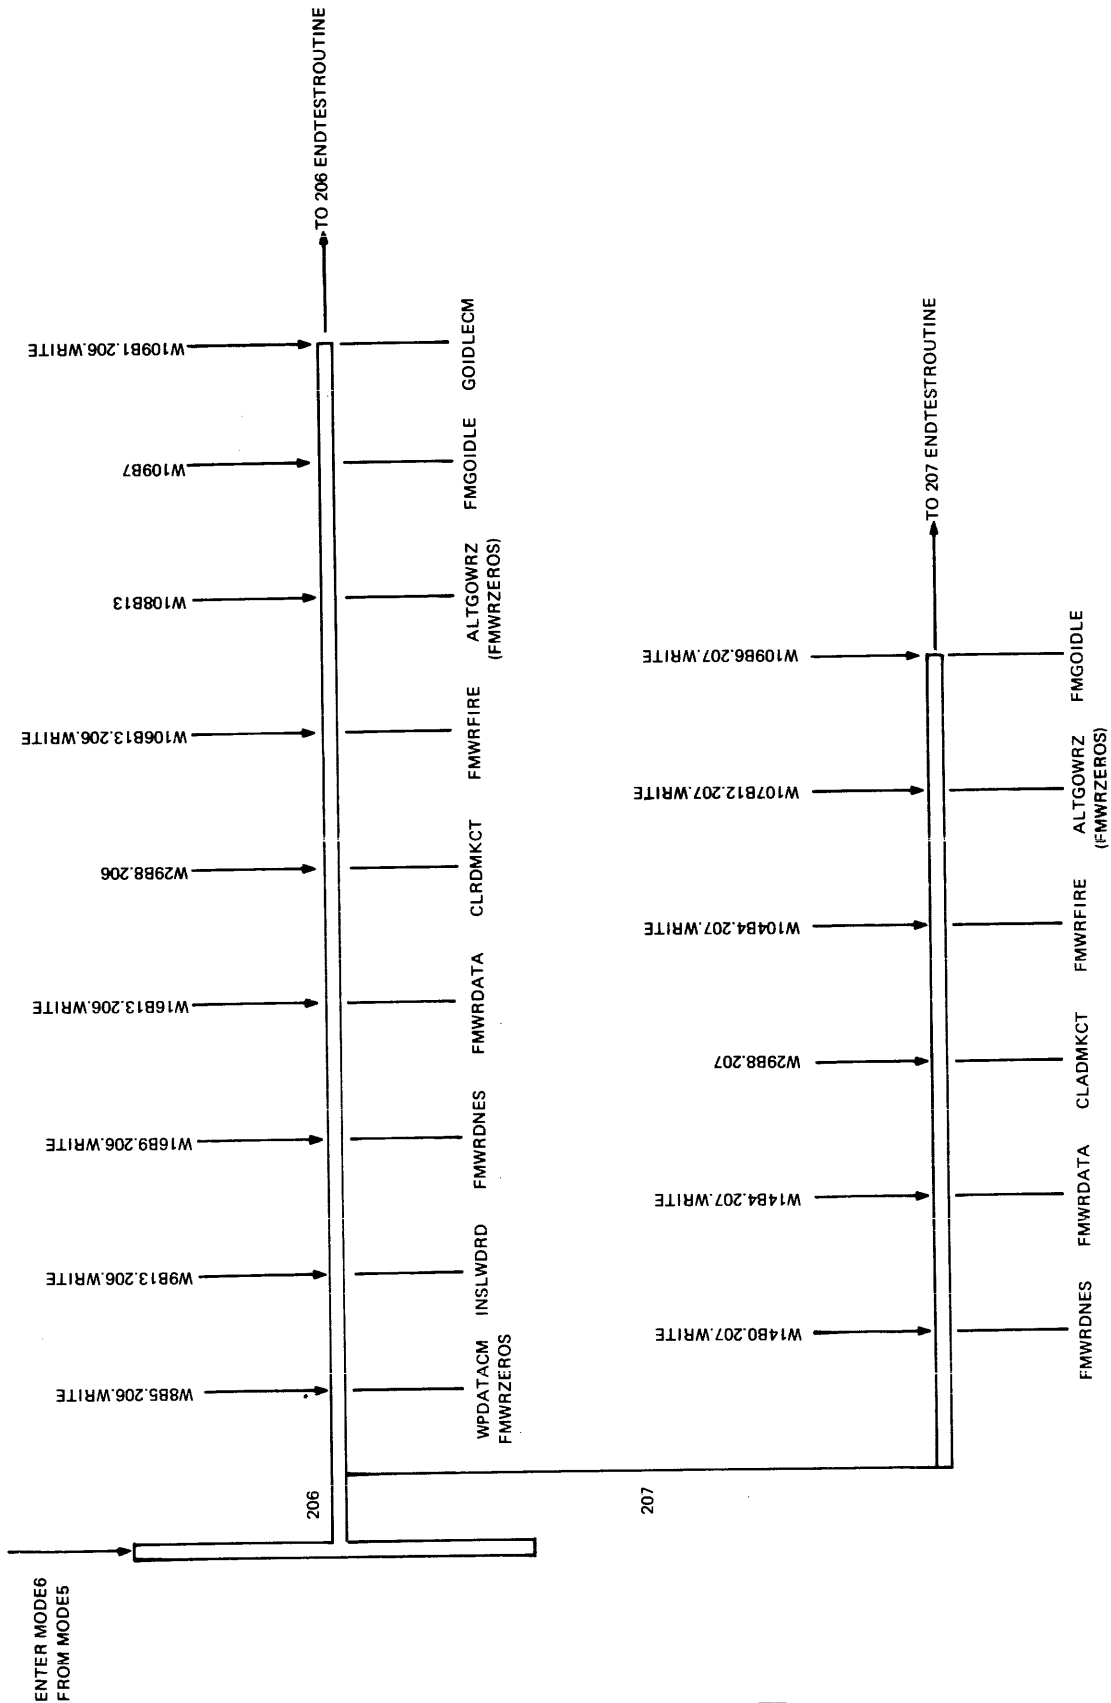

Figure 2-9. Mode 6, Write DATAxFR
- 2) 206 WRITE (figure 2-9 upper left hand side).
- 5) 207 Write (figure 2-9 lower left hand side).